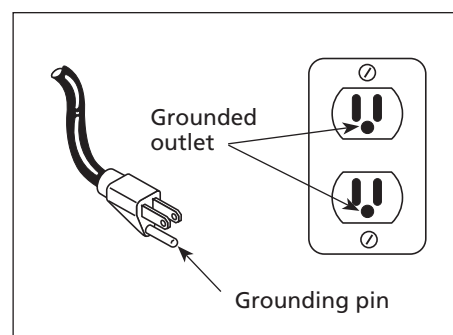

Figure 1 - Grounding method
- This product is for use on a nominal 120 volt circuit and has a grounding plug that looks like the plug illustrated in Figure 1. Make sure the product is connected to an outlet having the same configuration as the plug. This product must be grounded. In the event of an electrical short circuit, grounding reduces risk of electrical shock by providing an escape wire for electric current. This product is equipped with a cord having a grounding plug. Plug must be plugged into an outlet that is properly installed and grounded in accordance with all local codes and ordinances.